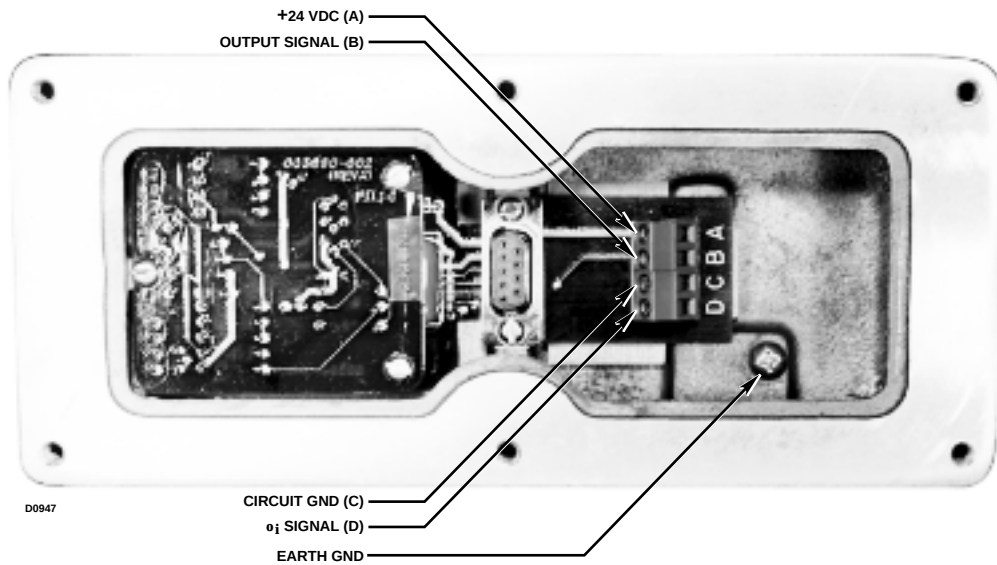

Figure 14—Detector Terminal Block
4. Figure 14 shows the detector terminal block. Letter designations correspond to connections as indicated below.